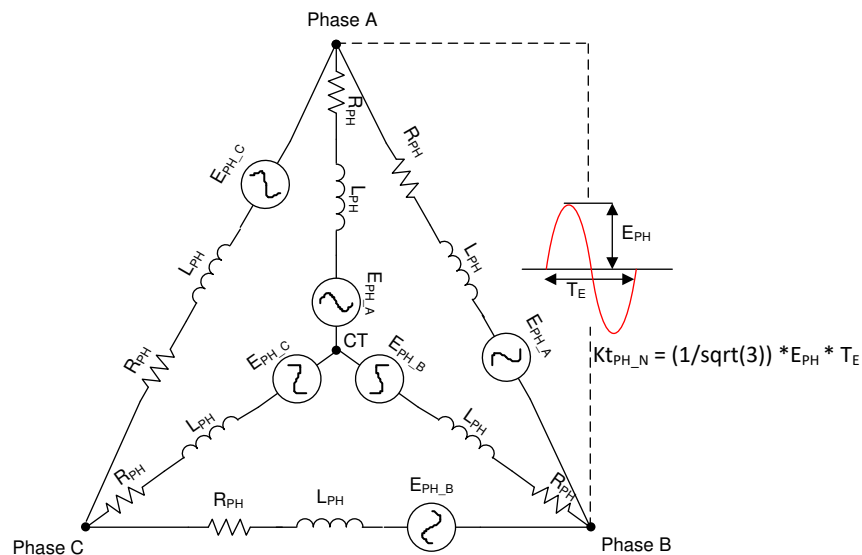

Figure 3-4. Motor BEMF Constant
Step 4: If the motor does not have a datasheet, then measure the voltage across any two phases of the motor using an oscilloscope by manually spinning the motor. A sinusoidal or trapezoidal voltage should appear on the oscilloscope. Measure the peak voltage E_{PH} in milli-volts and time period T_E in seconds as shown in Figure 3-4. Calculate BEMF constant Ke as shown in Equation 5.